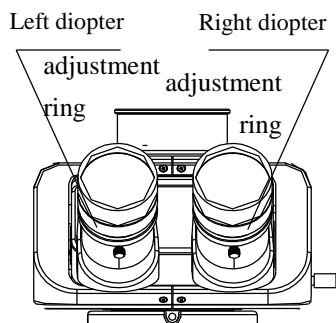

Fig. 16
- 4) Rotate the diopter adjustment ring of right eyepiece if the image is unclear when observed with the right eyepiece. (See Fig. 16)
- 5) Then rotate the zoom knob to the maximum magnification, if the image is not clear enough when observed with the right eyepiece, repeat Step (3)~(5) as above.
- 6) Then rotate the zoom knob to the minimum magnification, turn the diopter adjustment ring of left eyepiece if the image is not clear enough when observed with the left eyepiece. (See Fig. 16)